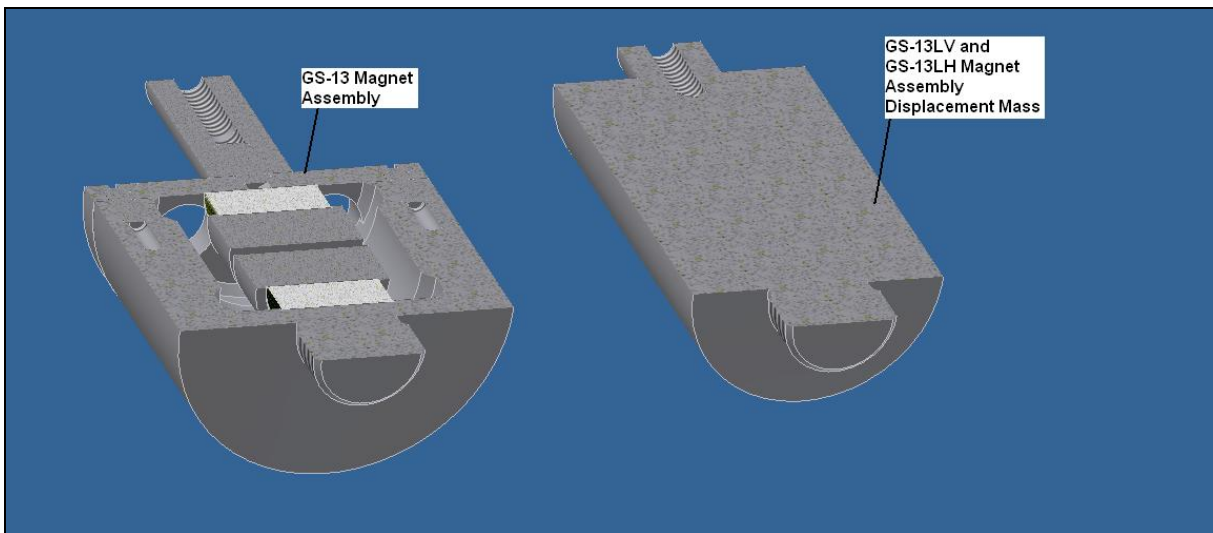

Figure 10. GS-13 Magnet Assembly and GS-13LV / LH Displacement Mass.
(i) *Calibration Magnet Assembly Displacement Mass.* Refer to Figure 10 for view of design.
- (j) *Calibration Magnet Assembly Displacement Mass.* Refer to Figure 10 for view of design.